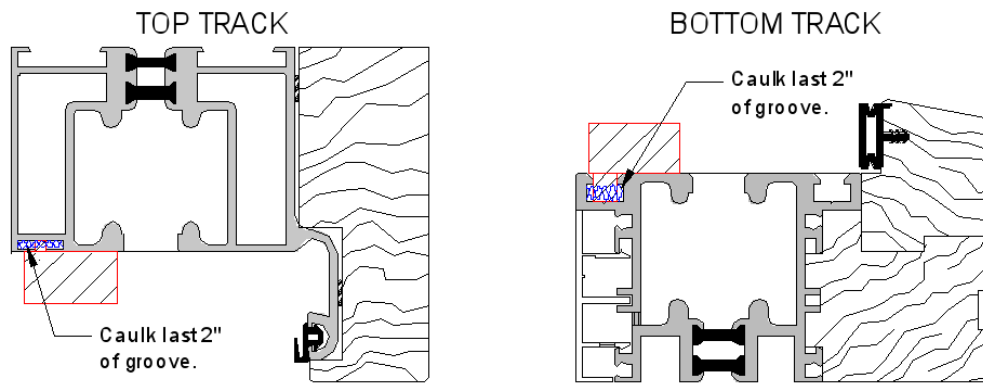

FIG 3.
- b) Caulk ends of both jambs as shown in Fig's 1 thru 3 depicted by squiggly lines (FIG 3 on next page). Pre screw in 2 (#10 x 4" FH Screw) into top and bottom pre-drilled holes on both jambs for ease of installation.
- c) Caulk the last 2" of the outside groove of both top and bottom tracks before inserting jambs, as shown in FIG 3.
- d) Each jamb has a jamb insert top and bottom; the thicker Insert is at the bottom of the jamb and will be inserted into the outside groove of the bottom track. The thinner jamb insert is at the top of the jamb and will insert into the outside groove of the top track (See FIG. 3).